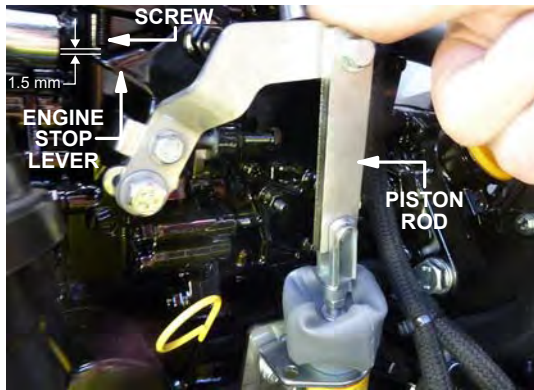

Figure 9. Verify Spacing
4. Push the piston all the way down and verify that there is a gap of 1.5 mm between the engine stop lever and the stop adjustment screw. See Figure 9.